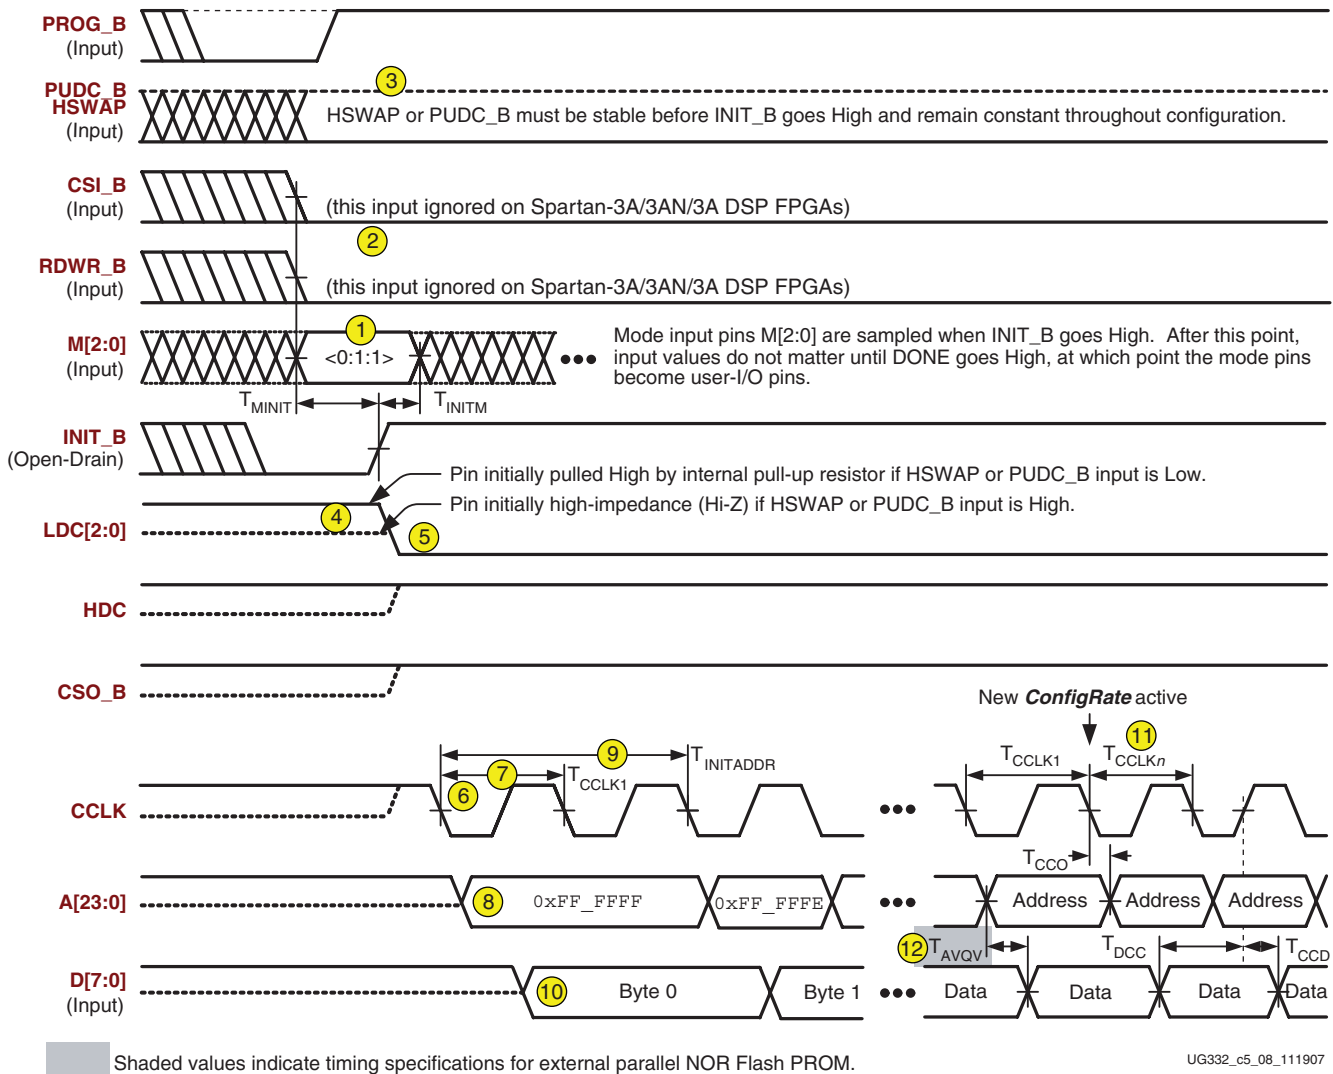

Figure 5-14: BPI Configuration Timing Waveform (Spartan-3E BPI Down mode shown)
Figure 5-14 provides a detailed timing diagram for the BPI configuration mode. The specific diagram is for the Spartan-3E FPGA family, using the BPI Down mode. However, the timing is also similar for the Spartan-3A/3AN/3A DSP FPGA families and for the BPI Up mode.
The following numbered items correspond to the markers provided in Figure 5-14.
3. The **HSWAP** or **PUDC\_B** pull-up resistor control input must be setup and valid before the rising edge of **INIT\_B**. Similarly, the example in Figure 5-14 shows the pull-up resistors enabled.